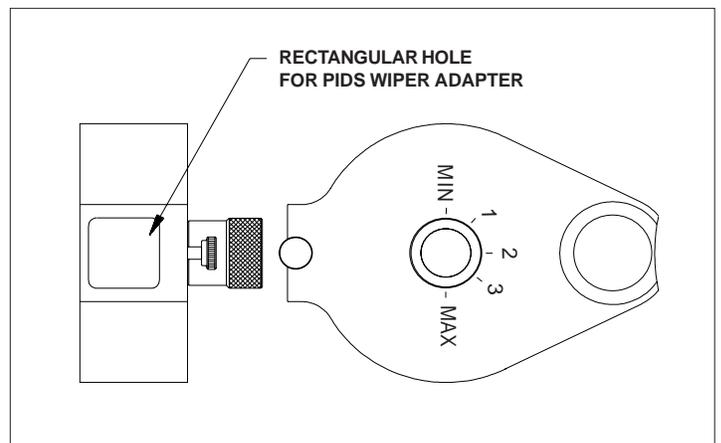

FIGURE 5
**TOP MOUNT CODERS:** If your Non-Porous Coder was ordered from the factory specifically for use with a PIDS System, the Inking System Cover on the Coder will have a rectangular hole in the end as shown in Figure 5.